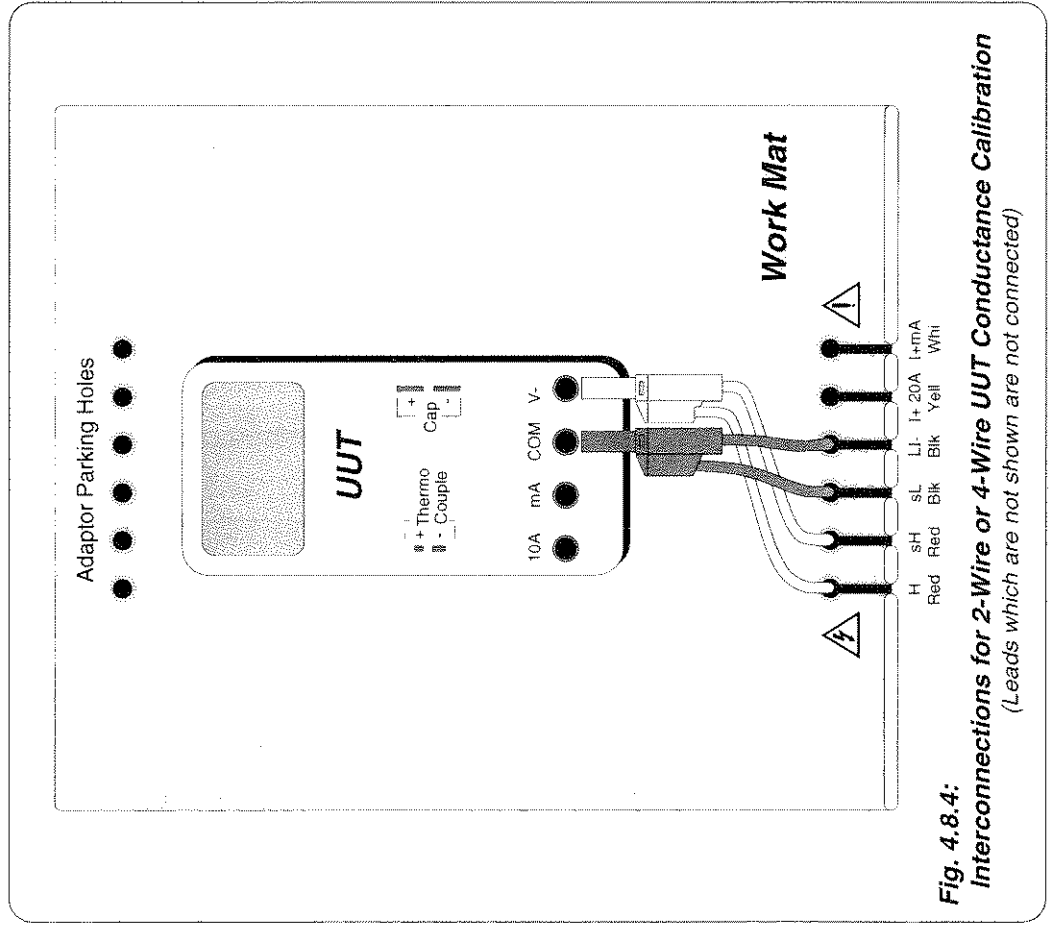

Fig. 4.8.4:
The general connection scheme for UUT calibration is illustrated in Fig. 4.8.4. The use of either 4-wire remote sensing at the UUT terminals, or 2-wire local sensing at the 9100 terminals, is served by the same connections from the 9105 at the work mat. Selection of 2/4-wire is carried out on the 9100 front panel.
1. **Connections** Connect the 9100 to the UUT as shown in *Fig. 4.8.4*, and ensure that both instruments are powered ON and warmed up.